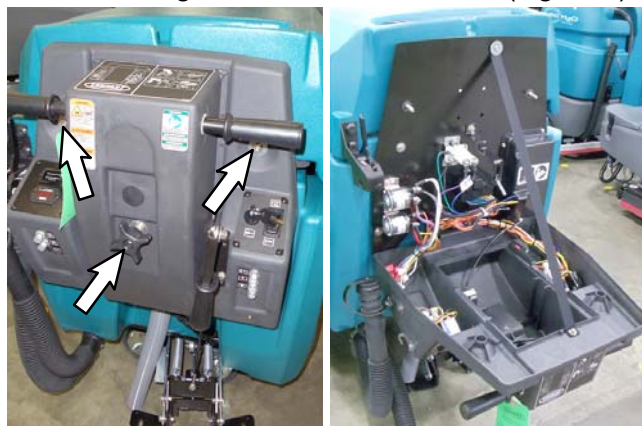

Fig. 1
2. Remove the two screws and the height adjustment knob from the control console housing. Lower housing to access control board (Figure 1).